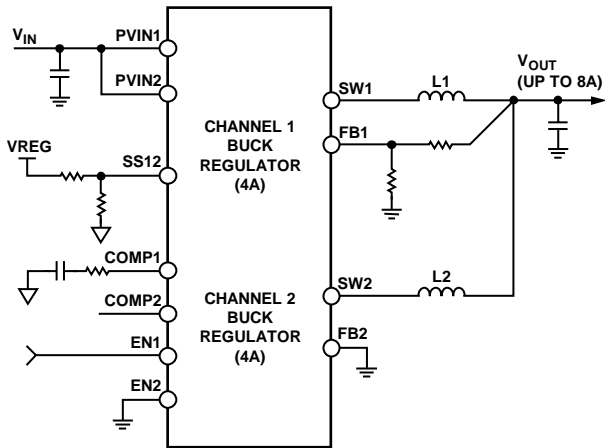

Figure 44. Parallel Operation for Channel 1 and Channel 2
The ADP5052 supports two-phase parallel operation of Channel 1 and Channel 2 to provide a single output with up to 8 A of current. To configure Channel 1 and Channel 2 as a two-phase single output in parallel operation, do the following (see Figure 44):
- Use the SS12 pin to select parallel operation as specified in Figure 44.